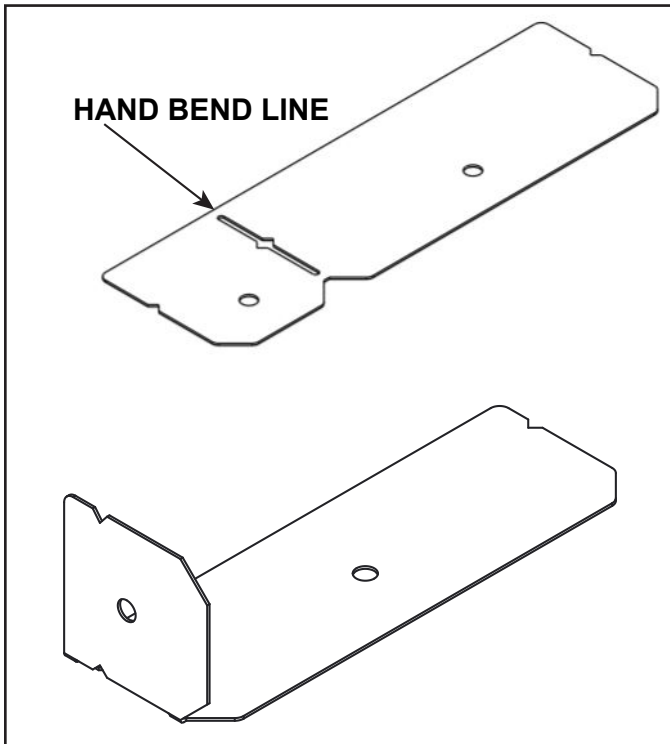

Figure 17 Hand Bending the Template
1. Hand bend templates as shown in Figure 17.